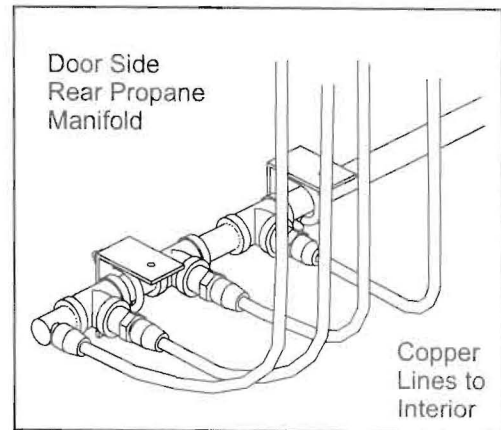

Figure 2
11. Use a small wire brush to clean dirt, debris, rust accumulation, and any undercoating from the pipe fitting at the forward end of the Propane manifold. See Figure 2.